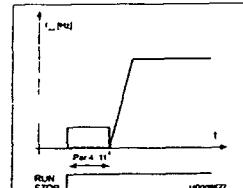

Figure 6-5-15 DC-braking time at start
- >0 DC-brake is active when the start command is given. This parameter defines the time before the brake is released. After the brake is released the output frequency increases according to the set start function parameter 4.6 and acceleration parameters (1.3 1.4 or 4.2 4.3) see figure 6-5-15